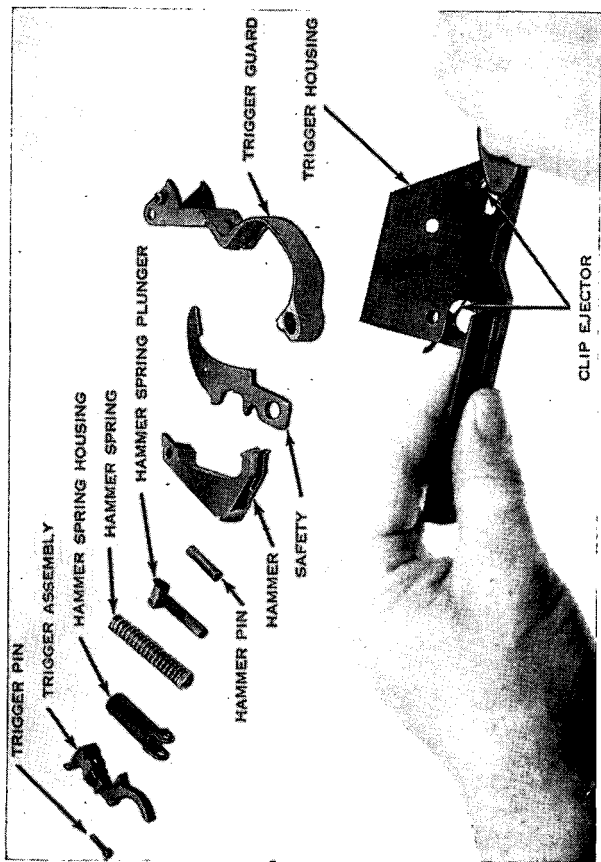

Figure 26. Removing the last part—the clip ejector.
f. Lay the trigger housing on its right side. Insert the point of a bullet or the screw driver blade of the combination tool in the hole by the loop of the clip ejector. Push downward on the clip ejector and unseat it (fig. 26).